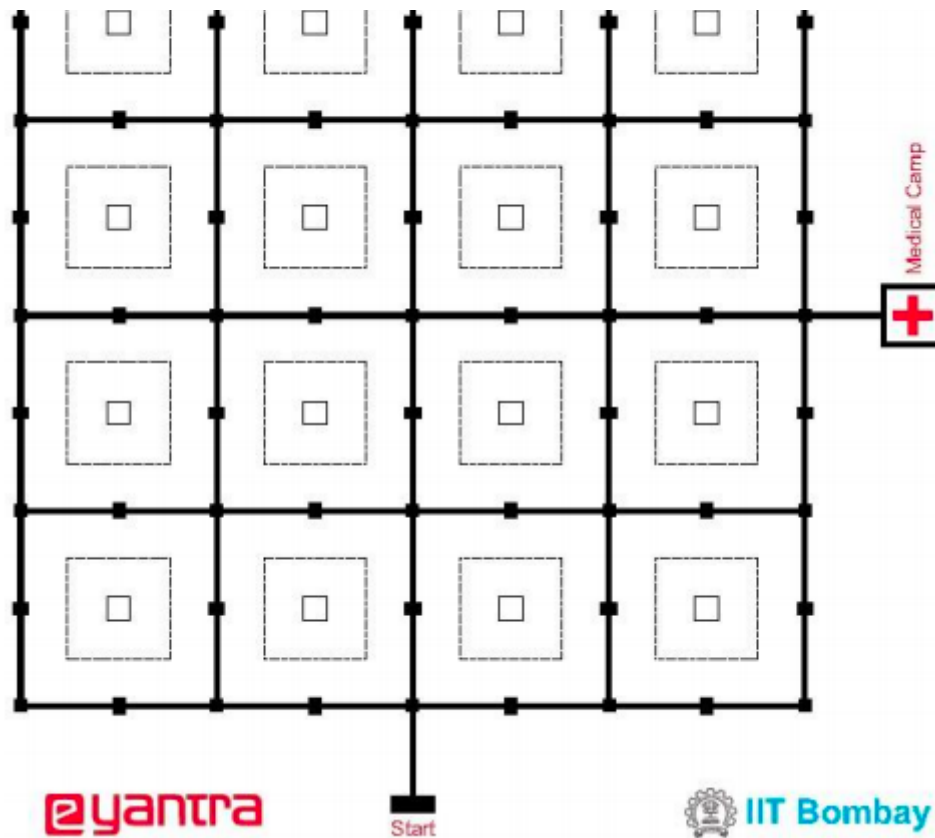

Figure 1: Arena design
- Figure 1 shows the arena design for this theme.